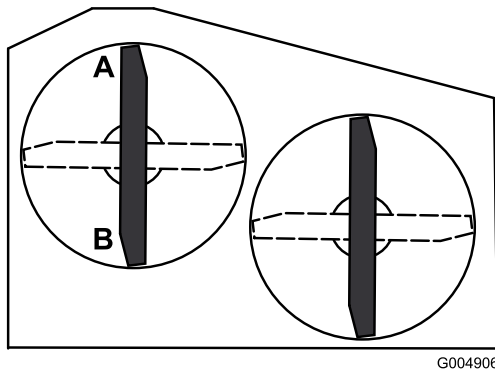

Figure 58
2. Position one blade front-to-rear. Measure at **A** and **B** locations from a level surface to the cutting edge of the blade tips (Figure 58).